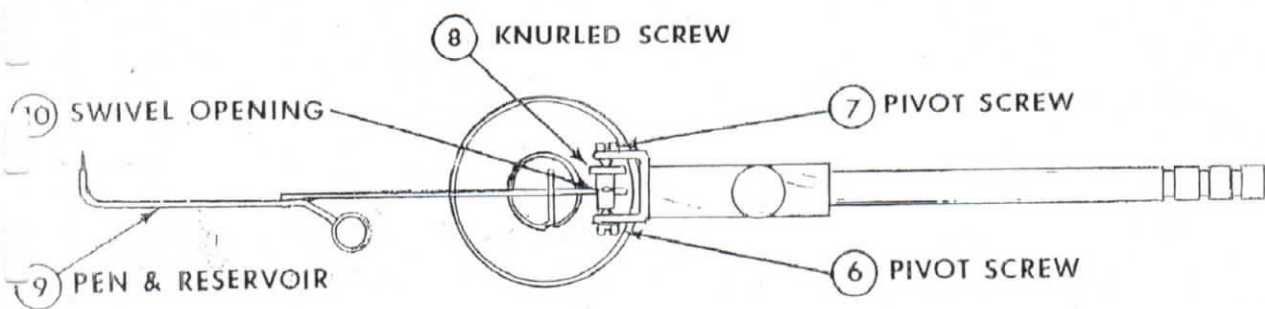

FIG. 1 7066-901 STUDENT TAMBOUR (SHOWN WITH INK WRITING PEN)
Remove the pen or stylus and clamp block from the tambour. Peel the fulcrum (2) off the diaphragm and remove all excess glue. Remove the O-ring (3) from the bowl and peel off the diaphragm making sure there is no foreign material which may still be attached to the edge of the bowl. Select a piece of rubber dam (P & B 7097-200) which is at least 1" larger in diameter than the size of the bowl. Very lightly stretch the new diaphragm over the bowl, just enough to create surface tension. Replace the O-ring and cut off excess rubber dam. Apply white glue to the ring of the fulcrum and place it so it is centered on the bowl with the stylus or pen holder parallel to the swivel (Fig. 1.). Allow the new diaphragm to dry for a few hours before using.
STUDENT TAMBOUR 7066-901 (Figures 1 & 2)